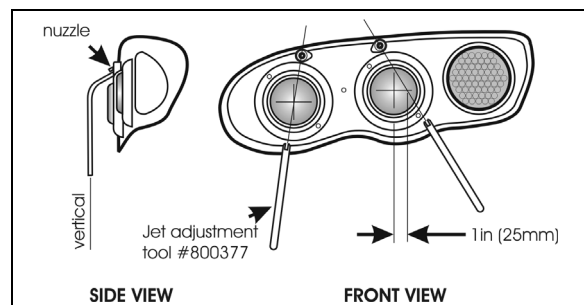
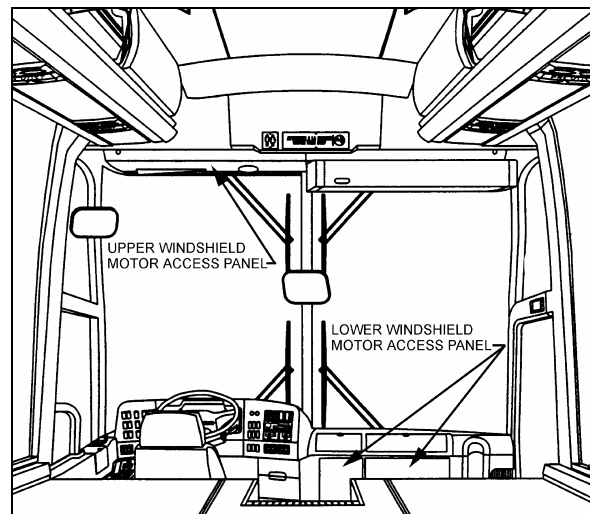

FIGURE 36: WASHER NOZZLES ADJUSTMENT
FIGURE 37: WIPER MOTORS LOCATION
1. Remove the cap nuts from the wiper arm pivot shafts (Fig. 36 and 37);
2. Disconnect the windshield washer tubing at the base of the wiper arm (Fig 36 and 37);
3. Lower windshield wiper (Fig. 36): loosen the clamping set screw securing the drive arm to the knurled arm pivot shaft;
4. Remove the drive and idler arms (Fig. 36) or arm assembly (Fig. 37);
5. Relocate the drive arm (Fig. 36) or arm assembly (Fig. 37) on its knurled pivot shaft to obtain the desired position;
6. Lower windshield wiper (Fig. 36). Tighten the clamping set screw to secure the drive arm to the knurled shaft. Fit the idler arm onto the idler pivot shaft.
9. Check the adjustment on a wet windshield (Fig. 36 and 37).
1. Remove the cap nuts from arms (Fig. 36 and 37);
2. Disconnect the windshield washer tubing at the base of the wiper arm (Fig. 36 and 37);
4. Lower windshield wiper (Fig. 36): loosen the clamping set screw on the base of the drive arm;
5. Remove the wiper arm assembly (Fig. 36 and 37).
1. Make sure the wiper motor is in the stop position. Lower windshield wiper (Fig. 36): position the wiper arm on the knurled drive shaft and idler arm on the pivot shaft. Upper windshield wiper (Fig. 37): position the wiper arm assembly on the knurled drive shaft;
4. Lower windshield wiper (Fig. 36): Tighten clamping nut onto the drive arm. Install cap nuts onto the arm shafts (Fig. 36 and 37);
5. Connect the windshield washer tubing at the base of the wiper arm (Fig. 36 and 37);
6. Check the adjustment on a wet windshield (Fig. 36 and 37).